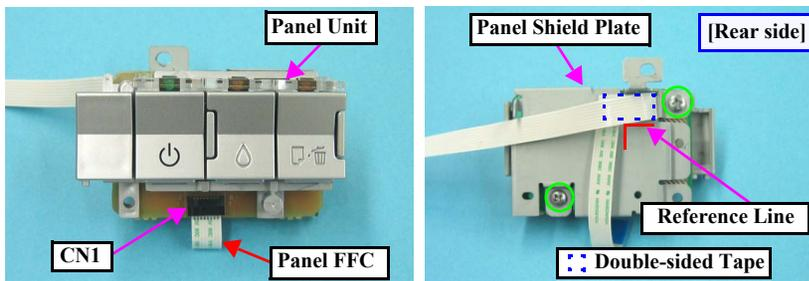

Figure 4-29. Removing the Panel Board / Buttons (2)
- Attach the Panel FFC with double-sided tape along with the reference line shown in Fig.4-29 (p.69).